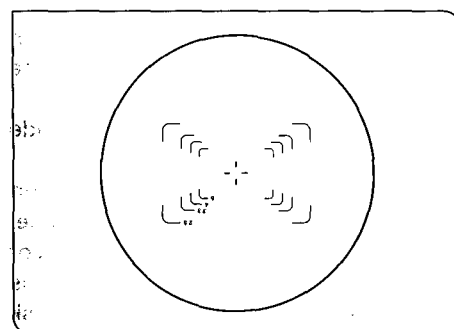

Fig. 107
- ⊙ The mask indicates the areas covered when using a 35mm film, and the numerals next to the lines correspond to the magnification of the respective PE photo eyepiece. (Fig. 107)
2. The photo mask has a reticle with four masks and a double cross-line, and the focus is for all purposes the same for the reticle and the camera film plane. The masks indicate the areas covered, and the numerals next to the masks correspond to the magnification of the photo eyepiece. (Fig. 107)